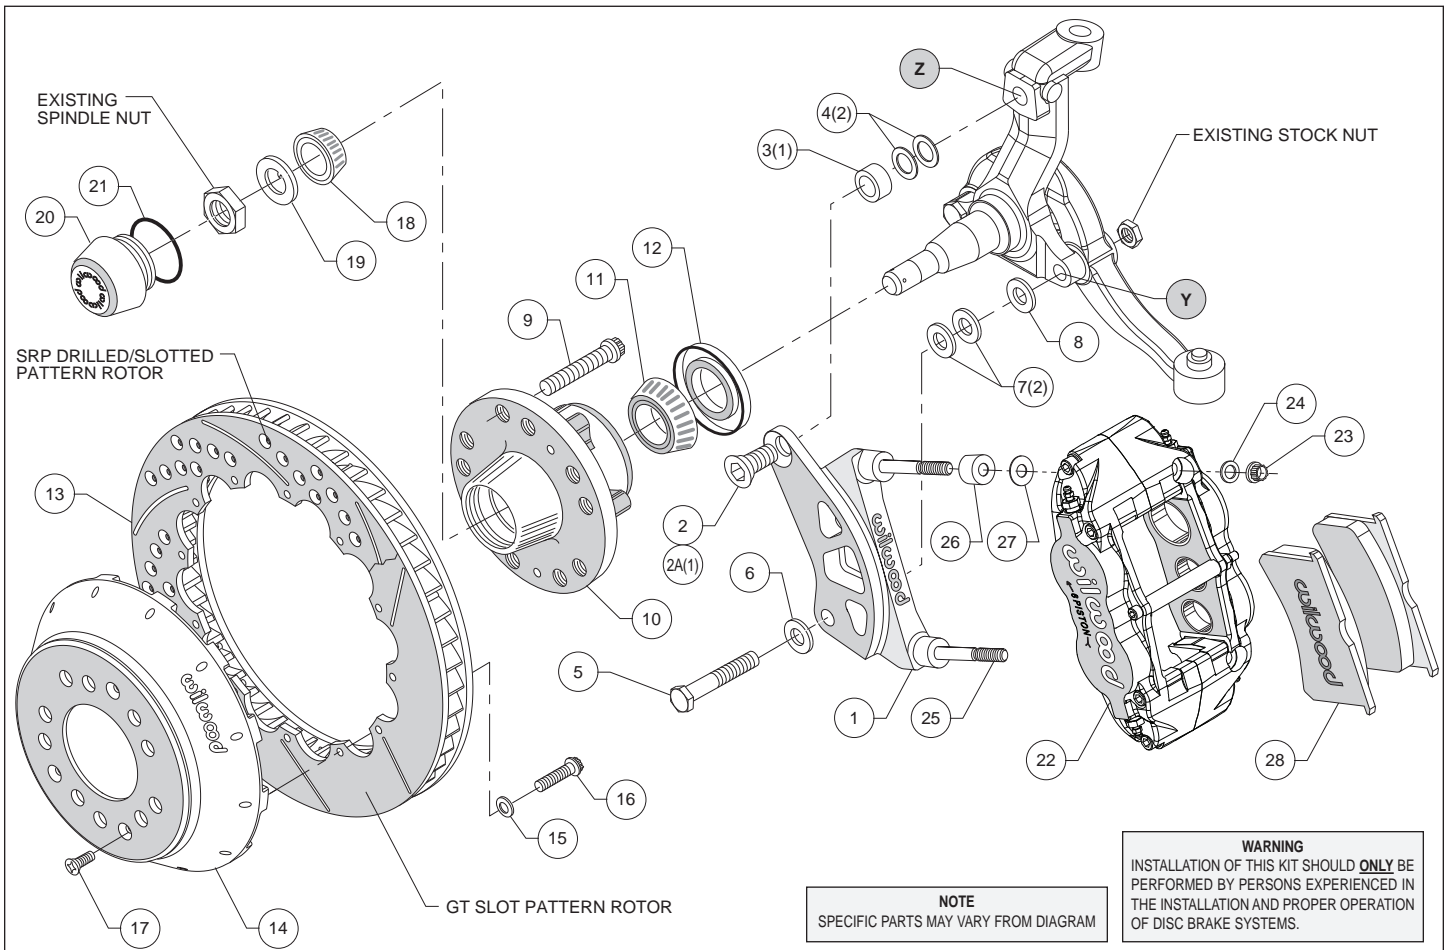
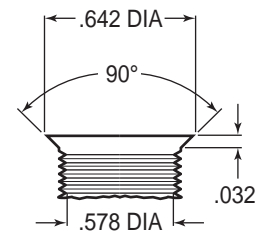
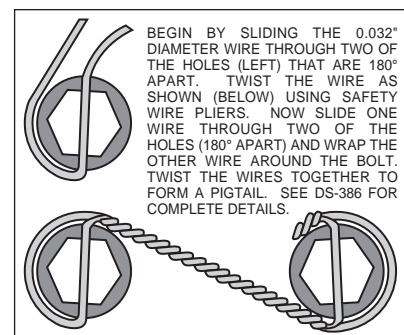

Figure 1. Typical Installation Configuration
Figure 3. Drill and Tap Detail
Figure 4. Safety Wire Diagram
•**NOTE:** 1964-66 spindles may require the following modifications (reference figure 1 and 3): Top anchor pin hole (Z) must be drilled and tapped to the dimensions as outlined in figure 3. Bottom rear steering arm bolt hole (Y) in the spindle and steering arm must be enlarged to .50" by drilling. A 1/2-20 backing nut (not supplied in kit) will need to be acquired to torque bracket / steering arm bolt (supplied in kit).
•**Disc Application:** The caliper mount bracket assembly (1) should be installed first with clean, dry threads on the mounting bolts. Mount bracket (1) to face of dust plate mount pad of spindle using the bottom bolt (5), through washer (6) while positioning washer (7, Heids spindle kit only) and shim washer (8) "if needed for bracket flatness" between bracket and spindle face, finger tighten only. Install the upper bolt (2A) with spacer (3) and flat washer (4, Heids spindle kit only), ensuring flatness positioned between bracket and top hole of spindle face. Inspect for interference from casting irregularities, machining ridges, burrs, etc. If everything fits correctly, then remove the mounting bolts (2A and 5) and coat threads with red *Loctite*® 271 and reinstall. Torque bolt (2A) to 120 ft-lb. Torque bolt (5) to 77 ft-lb.
•**Drum Application:** The caliper mount bracket assembly (1) should be installed first with clean, dry threads on the mounting bolts. Mount bracket (1) to face of dust plate mount pad of spindle using the bottom bolt (5), through washer (6) while positioning washer (8) between bracket and spindle face, finger tighten only. Install the upper bolt (2). Inspect for interference from casting irregularities, machining ridges, burrs, etc. If everything fits correctly, then remove the mounting bolts (2 and 5) and coat threads with red *Loctite*® 271 and reinstall. Torque bolt (2) to 120 ft-lb. Torque bolt (5) to 77 ft-lb.
•Install wheel studs (9) into the hub (10). Torque to 77 ft-lb. **NOTE:** There are two five lug patterns in the hub (5 x 4.50 and 5 x 4.75). Make sure of the correct hole pattern for the correct wheel application before installing studs into hub.
- With the larger I.D. side of the rotor (13) facing away from the hat (14), bolt rotor (13) to hat (14) through the backside of the rotor using washers (15) and bolts (16). Using an alternating sequence, apply red *Loctite*® 271 to the threads and torque bolts to 155 **in-lb**. For an added measure of security, the bolts may be safety wired using standard 0.032 inch diameter stainless steel safety wire as shown in Figure 4. Please refer to Wilwood's data sheet DS-386 for complete safety wire installation instructions.
- Slide the rotor/hat assembly over the studs (9) in the hub (10) taking care to align the small countersunk holes in the hat (14) with the small threaded holes in the hub (10). Install three flat head socket screws (17) through the small holes in the hat (14) and torque to 85 **in-lb**.
- NOTE:** *This kit contains distinct right and left hand calipers that must be mounted in a specific direction, as described below.* Lubricate the caliper mounting studs (25) with lightweight oil. Initially place one .035" thick shim (27) and spacer (26) on each stud as shown in Figure 1. Mount the caliper (22) onto the bracket (1) using lock nuts (23) and washers (24), Figure 1. Ensure that the caliper is mounted so that the largest pistons are at the rotor exit end of the caliper, in relation to the direction of rotor rotation.
- Remove the caliper center bridge pad retainer bolt, nut, and tube from the caliper. Slide the brake pads (28) into place. They should install easily without interference. Check that the outside radius of the brake pad is aligned with the outside diameter radius of the rotor face. Add or subtract shims (27) between the caliper and mount bracket to gain the proper alignment. Lubricate caliper mounting studs and nuts with lightweight oil, reinstall the caliper and torque the caliper nuts (23) to 28 **ft-lb**. Reinstall the center bridge pad retainer tube, bolt, and locknut. The locknut should be snug without play in the bolt or tube. Be cautious not to over tighten.